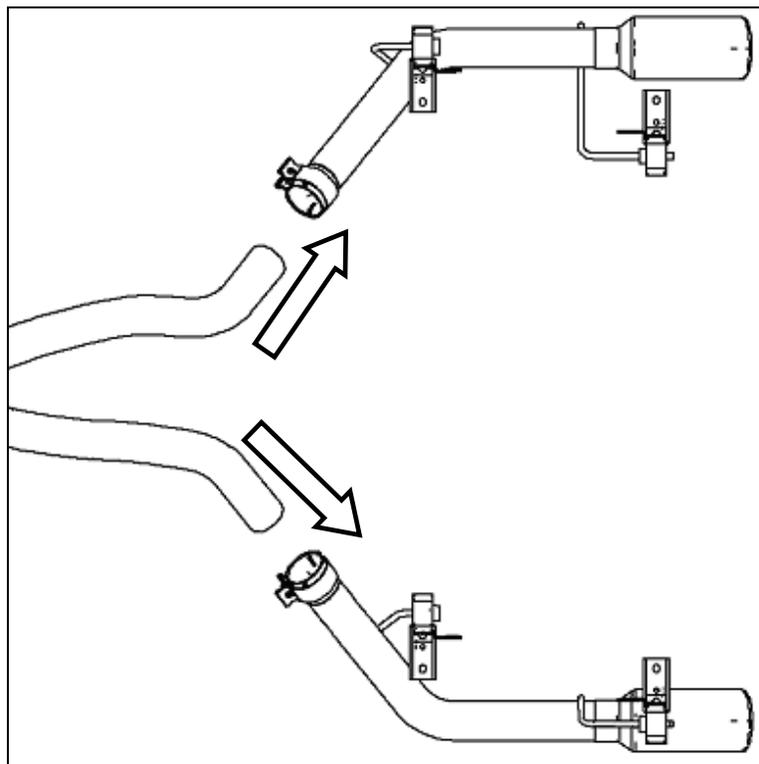

Figure 9
4. Insert each Midpipe into the flared end of each Tailpipe. Refer to Figure 9. Make sure the Midpipes are fully seated into the Tailpipe inlet flanges.